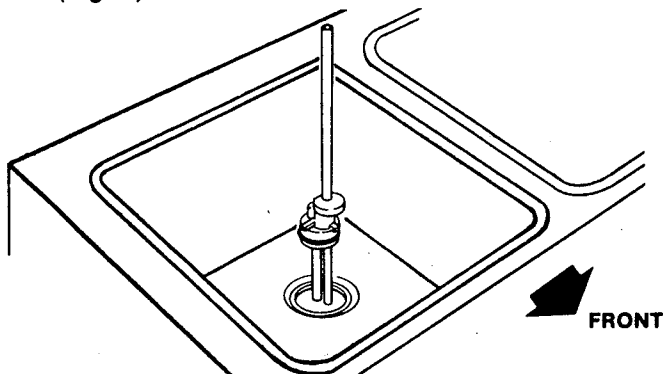

Figure 8. Mix Inlet Regulator
- A. Push the mix inlet regulator into hopper with air inlet (long) tube toward the front of the freezer (Fig. 8).